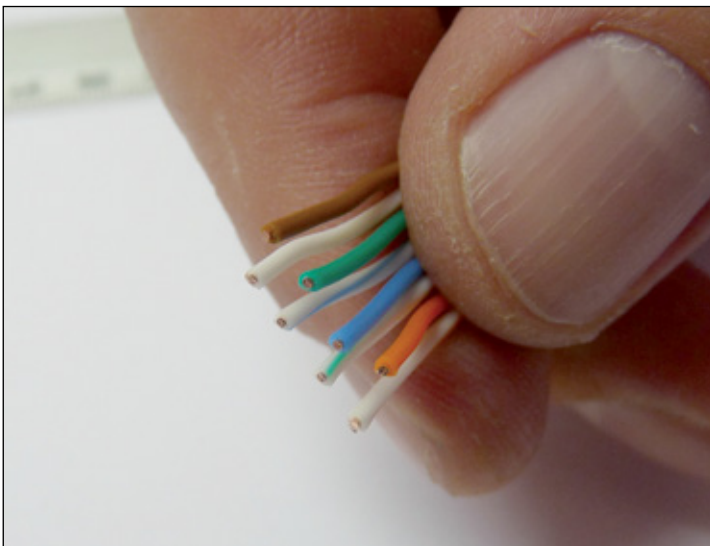

Figure 11
- 9 Proceed to bend the individual color coded conductors with an 10 to 15 degrees angle as shown in **Figures 11 and 12**, please follow color order as per the 568B coding in this example.